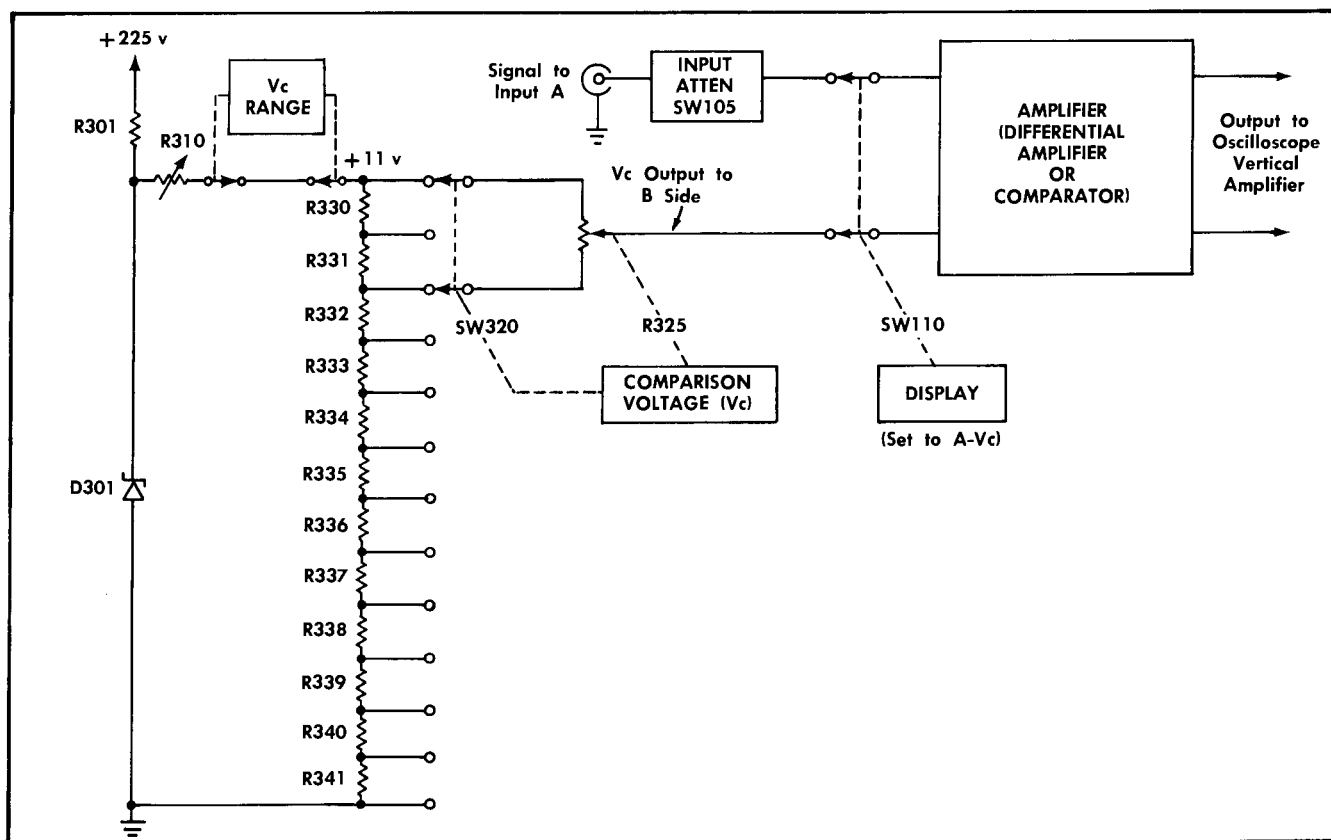

Fig. 3-1. Simplified diagram of the comparison voltage circuit and how it is connected to the amplifier for A-Vc differential-comparator mode of operation.
The comparison voltage output circuit (see Fig. 3-1 and the Switching Diagram) is composed of the COMPARISON VOLTAGE control SW320 and R325 with associated circuitry. The COMPARISON VOLTAGE control is a combination of two controls: (1) switch SW320 selects the first digit within the range set by the Vc RANGE switch, and (2) the 10-turn potentiometer R325 selects the remaining digits.